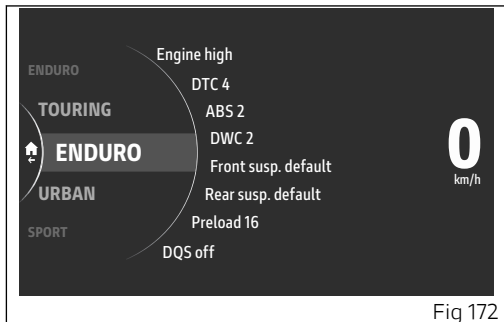

Fig 172
- System opens the specific page (Fig 172) from which it is possible to scroll the available Riding Mode and view their parameters, together with the relevant settings, by means of joystick ▲ ▼.